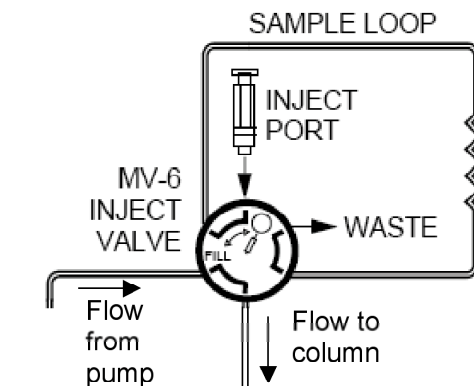

Figure 7.9. MV-6 valve in LOAD position.
1. Turn the MV-6 injection valve fully counterclockwise (as far left as it will go) (Figure 7.9).